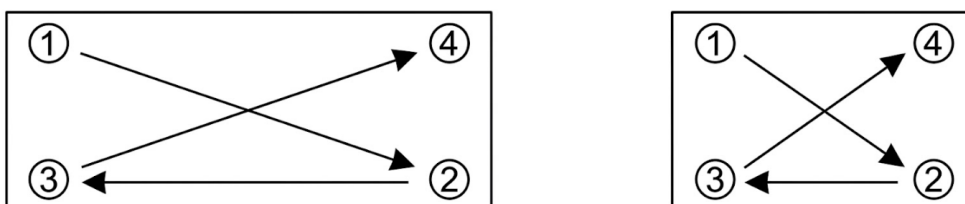

Figure-15g
- ❖ (2) Torque screws to 0.4N-m (5.0kg-cm) max as shown in Figure-15g.